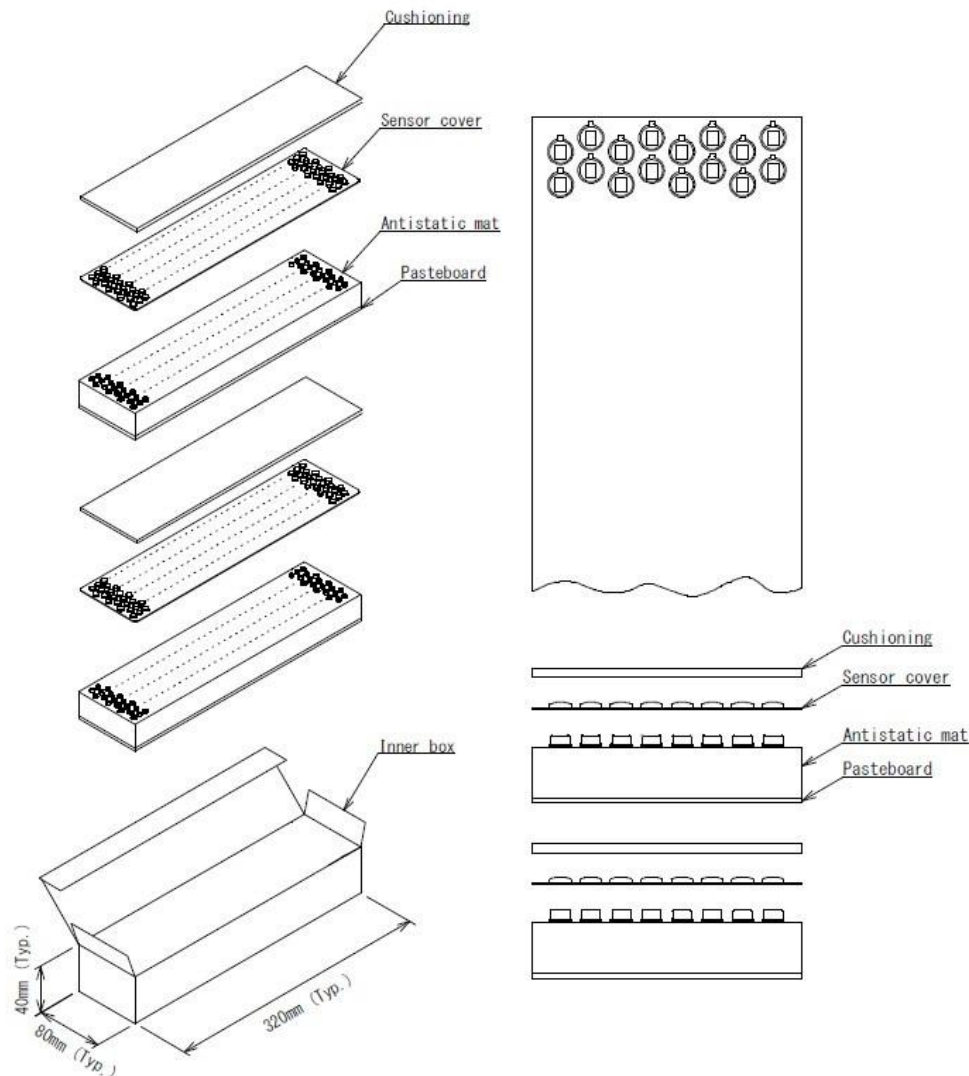
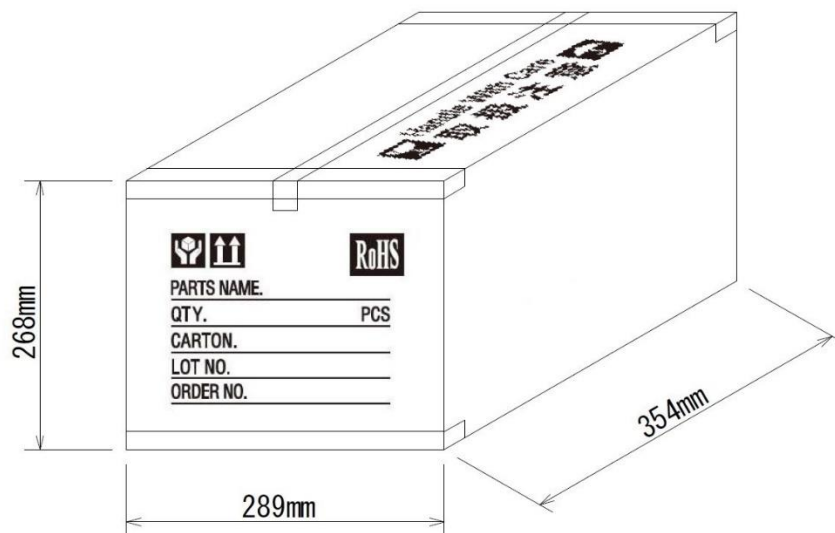

Figure 18 – Sheet & Inner-Box Packaging
Figure 20 - Standard Outer-Box Dimensions
The ZDP323B Digital PIR Sensor is shipped in sheets of 200 pieces, packed in boxes as shown in Figure 18 through Figure 20. The sheets are packed in an inner-box (2 sheets/box = 400 pieces) and 15 inner-boxes are packed in an outer-box for a total of 6,000 pieces per box.
4) The Standard Outer-Box dimensions are shown in Figure 20